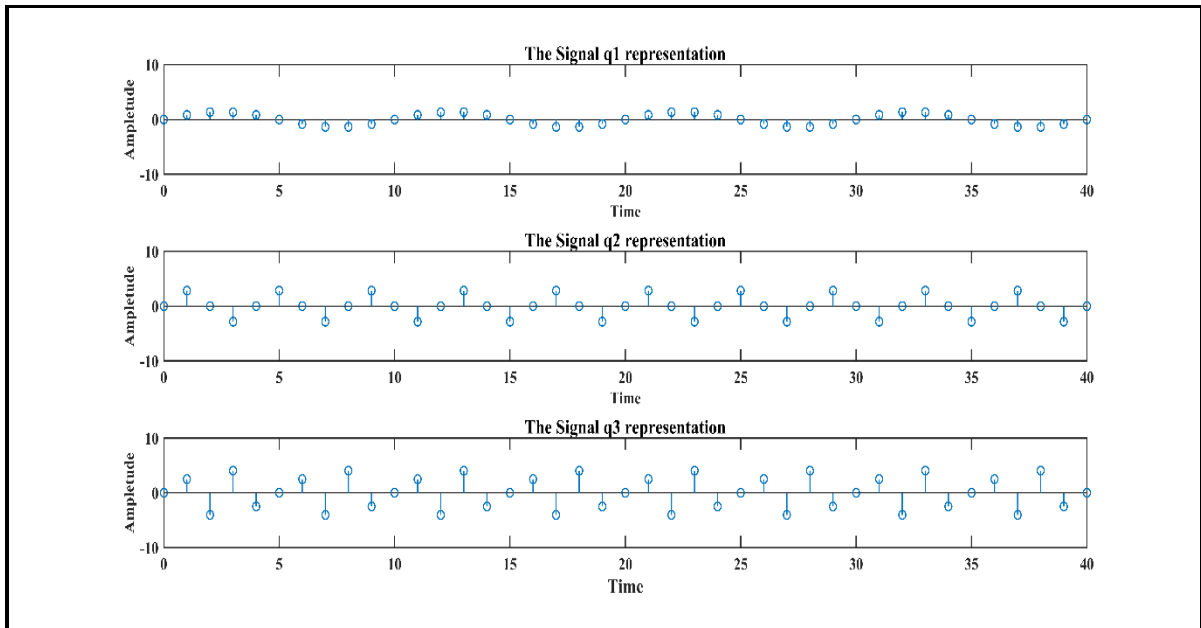

Figure 8: The Discrete Time Signal generated and imported to SPTool
- The Discrete time Signal show in the Figure 8 generated, the sum of it were found and added AWGN to it sum, the result show in the Figure 10 and it import to SPTool to show the frequency and time representation and designed some Filters.
The MATLAB scripts were used to generated discrete time signal (X) which is sum of three sine signals with frequency 100,250 and 400 and RMS voltage 1,2 and 3 respectively, the Code 1 in Appendix A.3 used to create the signals, the result shown in the Figure 8, 9 and 43 in results part .